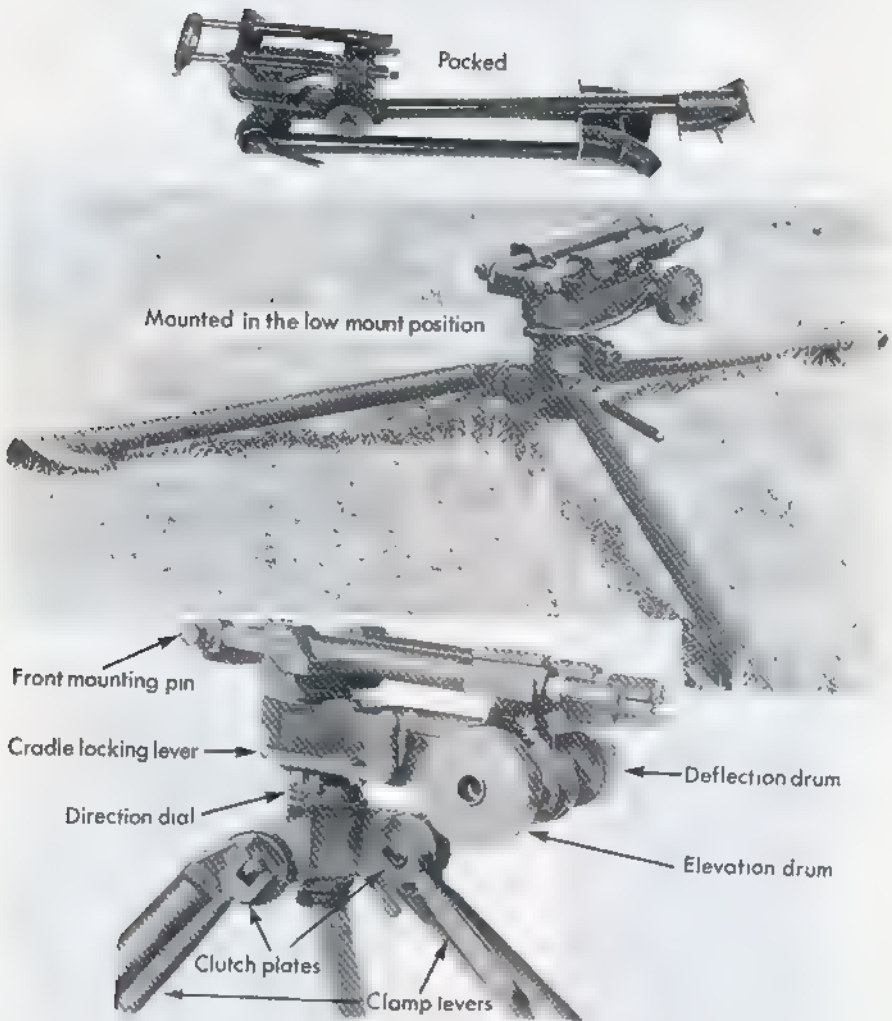

Fig 4.—The tripod
27. *The Tripod (see Fig 4). Explain and demonstrate.*